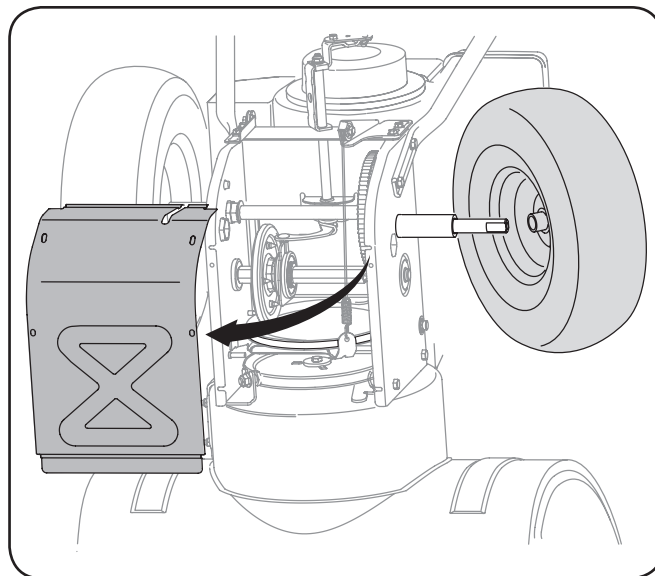

Fig. 7-9
- Remove the frame cover from the underside of the snow thrower by removing the self-tapping screws which secure it. See Fig. 7-9.
- Remove the frame cover from the underside of the snow thrower by removing the self-tapping screws which secure it. Remove the right-hand wheel by removing the screw and bell washer which secure it to the axle. See Fig. 7-9.